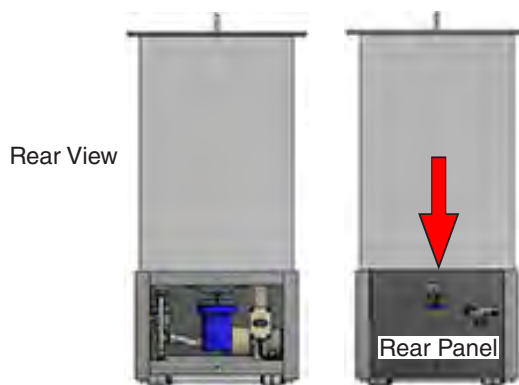

Figure 5.6f: Install rear panel. Openings in panel fit over fluid and electrical connections.
3. Install the rear panel with the electrical and fluid connection openings on the rear of the cart (Figure 5.6f).